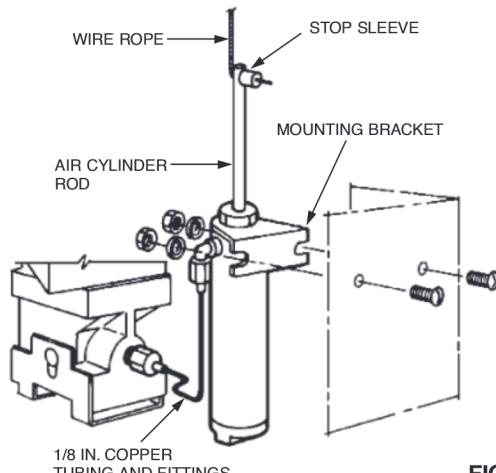

FIGURE 58
- Locate air cylinder and bracket assembly over the two 7/32 in. (.6 cm) holes on right side of the enclosure. Assemble with screws, lockwashers, and nuts. Wrench tighten. See Figure 58. Air cylinder(s) can also be mounted in the inverted position, allowing for direct exit out the knockout(s) in the bottom of the enclosure. See Figure 59.
6. Install the necessary 1/8 in. copper tubing and fittings for each air cylinder to the accessories piping arrangement on the regulated release mechanism. See Figures 58 and 60.
- 9. Beginning at the regulated release assembly, thread the end of the wire rope through hole provided in air cylinder rod. See Figure 58.
- 12. With the end of wire rope already threaded through hole in air cylinder rod, slide stop sleeve (Part No. 26317) onto wire rope and leave loose. Do not crimp stop sleeve at this time. See Figure 58.
- 14. Raise air cylinder rod "UP" to its maximum extended position. See Figure 58.
- 16. Slide stop sleeve against air cylinder rod, make certain all slack is removed from wire, and crimp stop sleeve. See Figure 58.